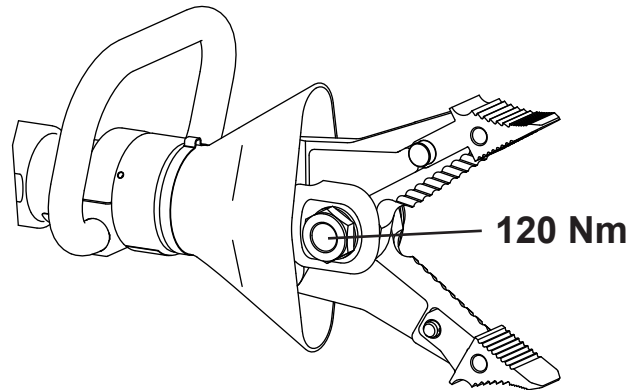

Fig. 9
- Check the torque of the nut on the centre bolt (Fig. 9). It should be 120 Nm.